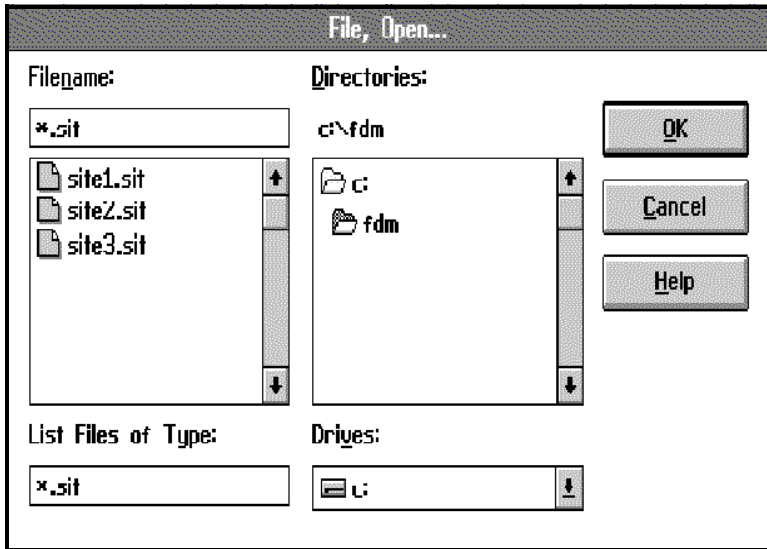

Figure 6-3: Download Site Selection
1. Select **Download Site to Instrument** command (**ALT+U** and **ALT+D**). A window similar to the one shown in Figure 6-3 below appears.